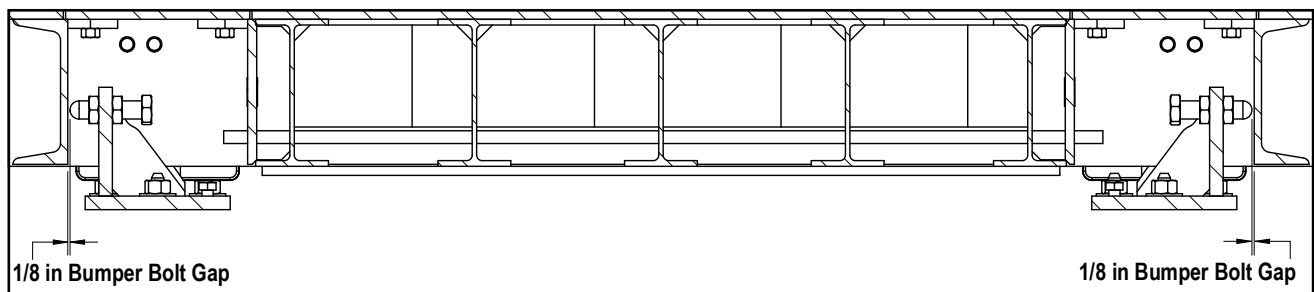

Figure 3-9. 1/8 in Bumper Bolt Gap
4. Adjust to leave a 1/8 in gap between the bumper bolt and the load cell enclosure (see Figure 3-9).